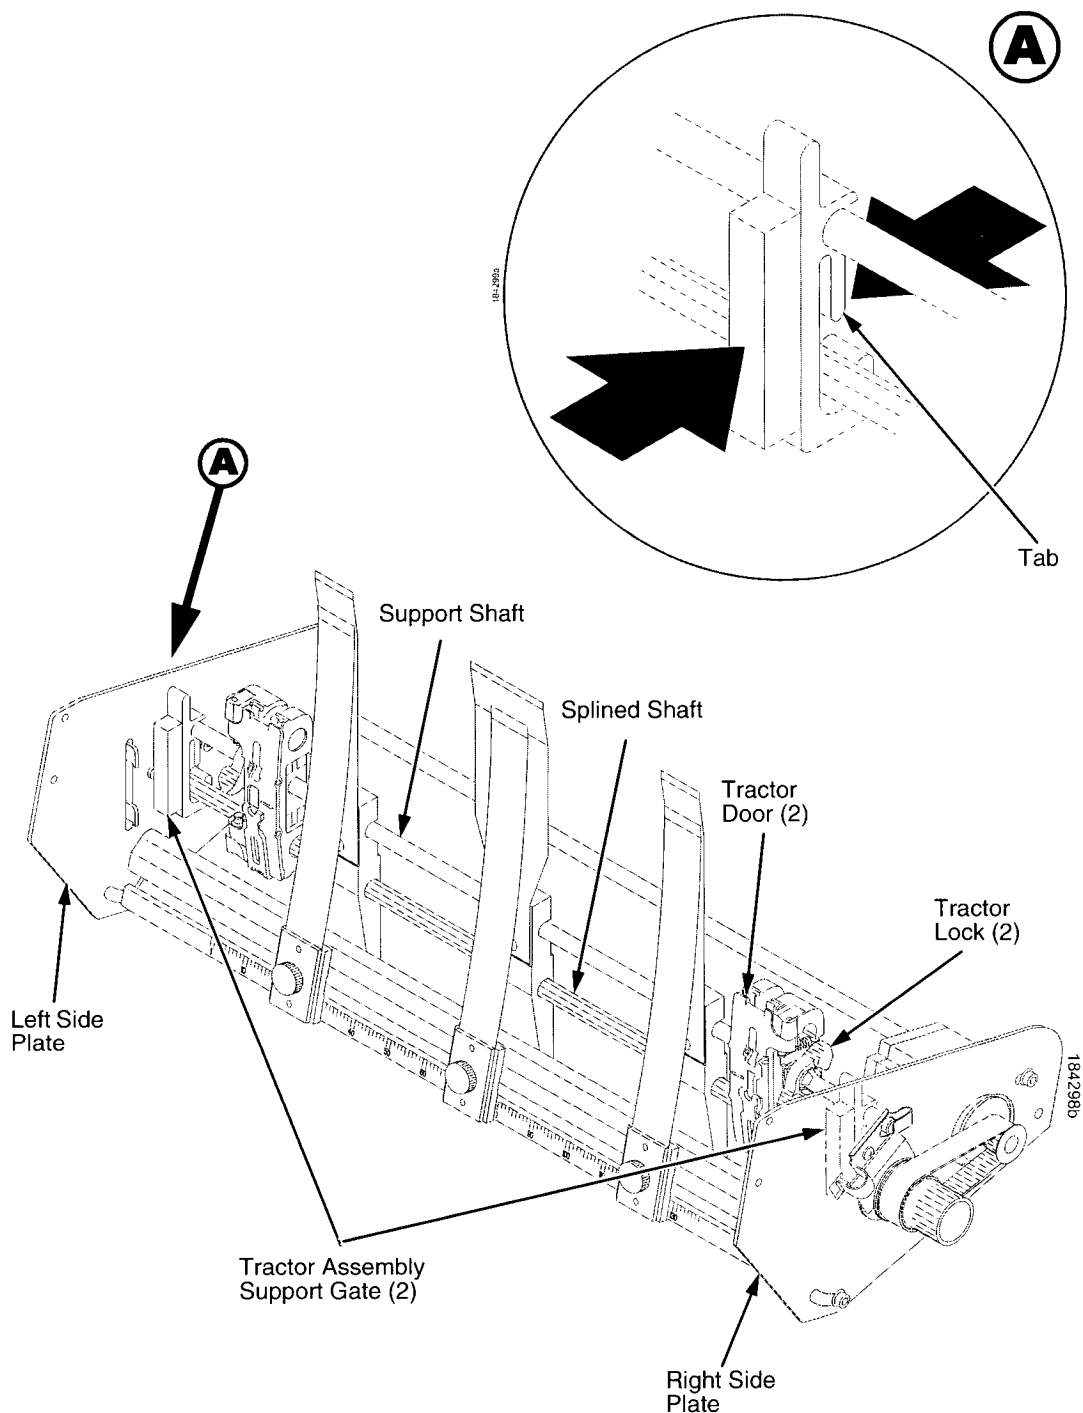

Figure 125. Removing and Installing the Tractor Assembly Support Gate
4. Squeeze the tab on the left tractor assembly support gate and remove the support gate from the splined shaft and support shaft. (See page 455, Figure 125.)